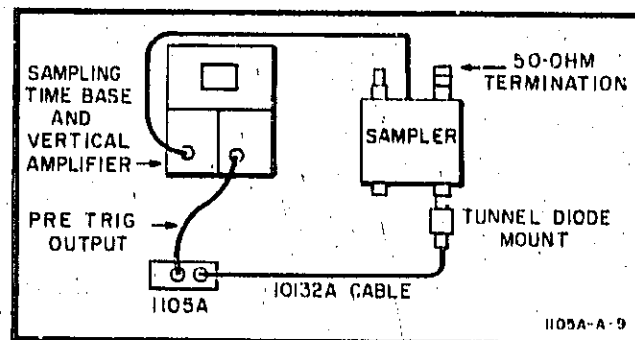

Figure 2. Typical Oscilloscope Risetime Measurement Test Setup
14. A typical application involving the risetime measurement of an oscilloscope-sampler system is shown in Figure 2. The risetime of the oscilloscope-sampler system under test is determined by first measuring the observed pulse risetime on the oscilloscope. This observed risetime together with the known risetime of the Pulse Generator/Tunnel Diode Mount combination is substituted in the following equation and the equation is solved for T1.